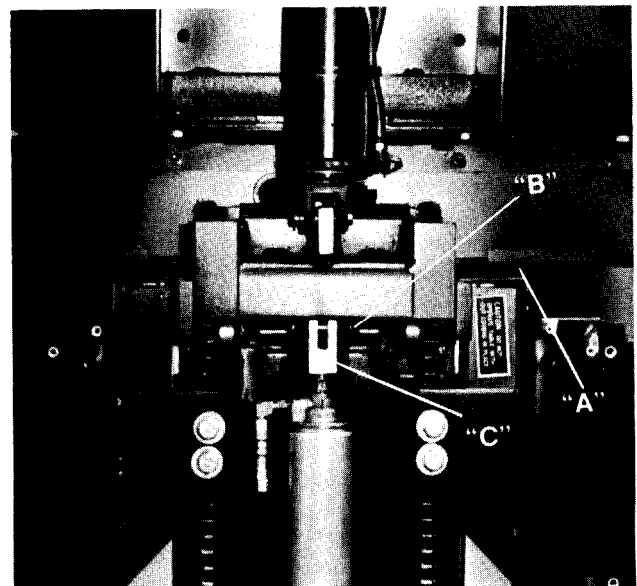

Fig. 40
DANGER: WHEN REMOVING THE CLEVIS PINS FROM THE BASE CYLINDER, THE TWO ASSISTANTS MUST SUPPORT THE TABLE TOP. KEEP HANDS AWAY FROM THE TOP OF THE SLIDES, POINT A, FIG. 40 AND FROM BENEATH THE BASE SLIDING MEMBER. AFTER REMOVING THE CYLINDER, STAND CLEAR OF THE TABLE AS THE TWO ASSISTANTS LOWER THE TABLE TOP. FAILURE TO DO THIS COULD RESULT IN SERIOUS PERSONAL INJURY.
7. Connect the (3) hose fittings tightly to the new cylinder.
8. Have the two assistants lift on the table top enabling the clevis pin, Item B, Fig. 40 to be installed along with the cotter pin.
12. Fully retract the base cylinder and adjust for a 1/16" to 1/8" gap "A", Fig. 40 above the slides. To adjust for this gap, the clevis (rod end) must be adjusted in or out accordingly. To adjust the clevis, turn the cylinder rod using a 3/8" open end wrench on the wrenching flats, Item C, Fig. 21. The rod will turn easiest when it is extended about half of its total extension.